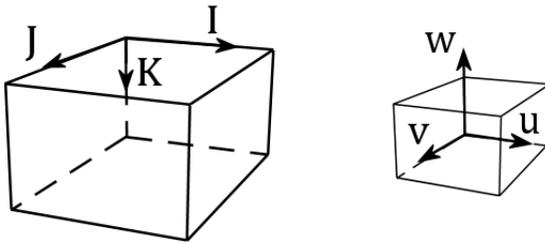

Figure 5.3. Coordinate systems used by Format 3.
- **u, v, w, I, J, K, z, c, r**. A line contains the data for a starting location. Repeat as often as needed. As illustrated in Figure 5.3,  $[\mathbf{I}, \mathbf{J}, \mathbf{K}]$  are the [column, row, layer] indexes of the cell containing the starting location;  $[\mathbf{u}, \mathbf{v}, \mathbf{w}]$  are the local coordinates (ranging from 0 to 1) of the starting location within the cell. The origin of  $[\mathbf{I}, \mathbf{J}, \mathbf{K}]$  is the highest northwest corner of the model and the origin of  $[\mathbf{u}, \mathbf{v}, \mathbf{w}]$  is the lowest northwest corner of a cell.  $\mathbf{r}$  is the retardation factor.  $\mathbf{z}$  and  $\mathbf{c}$  are not used by Seer3D.